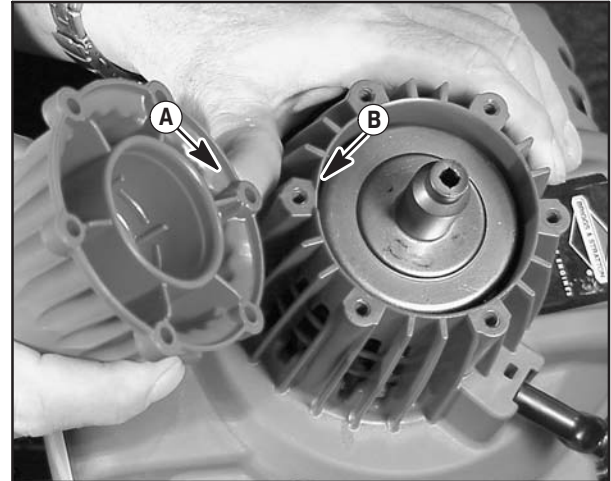

Fig. 14
NOTE: Raised boss (A) on clutch housing cover must fit in recessed boss (B) on blower housing, Fig. 14.